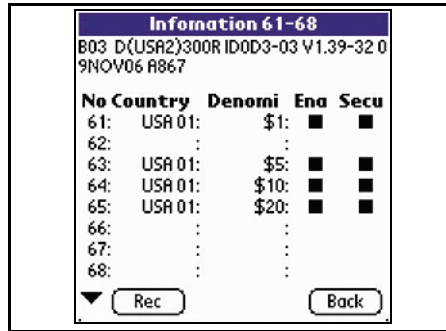

Figure 8 Information Screen
5. The screen shown in Figure 8 on page 14 will appear with the following information: